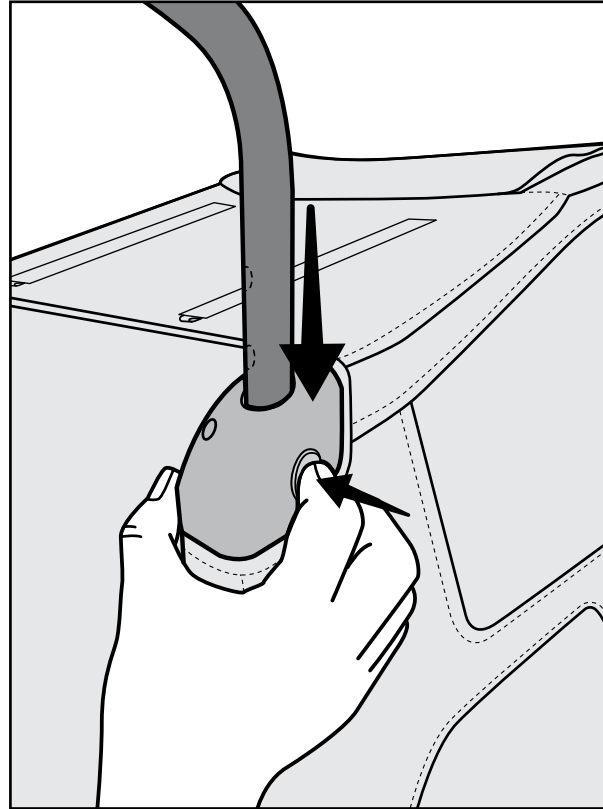

Figure 22
1. Insert handlebar into receiver, depress both yellow handlebar receiver buttons and insert the handlebar past the buttons. (Figure 22)
2. Release the buttons and slide the handlebar until it clicks into place. (Figure 22)
3. The handlebar has two height settings. Depress each handlebar receiver button to slide the handlebar to desired setting (Figure 22). Ensure that both sides of handlebar are in the same height setting.